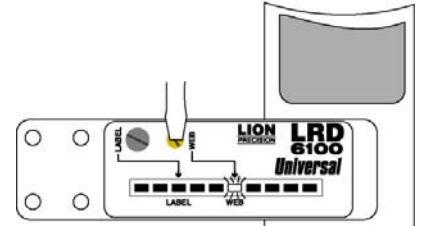

Fig. 1
2. Place web material *only* under the sensing area. (Fig. 1)
3. Use WEB adjustment to adjust the SETUP INDICATOR to WEB. (Fig. 1)